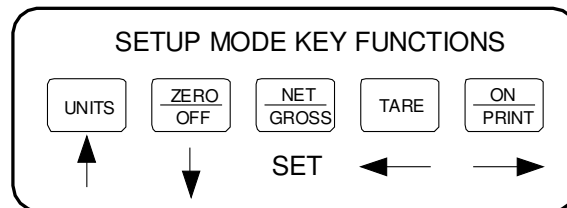

Figure 6-1: Setup Menu Key Assignments
3. Use the four directional keys (shown in Figure 6-1 below) to adjust the displayed value to the actual test weight value. Increase the flashing digit by pressing the UNITS key. Decrease the flashing digit by pressing the ZERO/OFF key. Pressing the ON/PRINT key or the TARE key will change the position of the flashing digit.